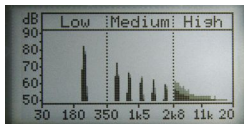

Fig.5
- » linear audio spectrum (fig.5)